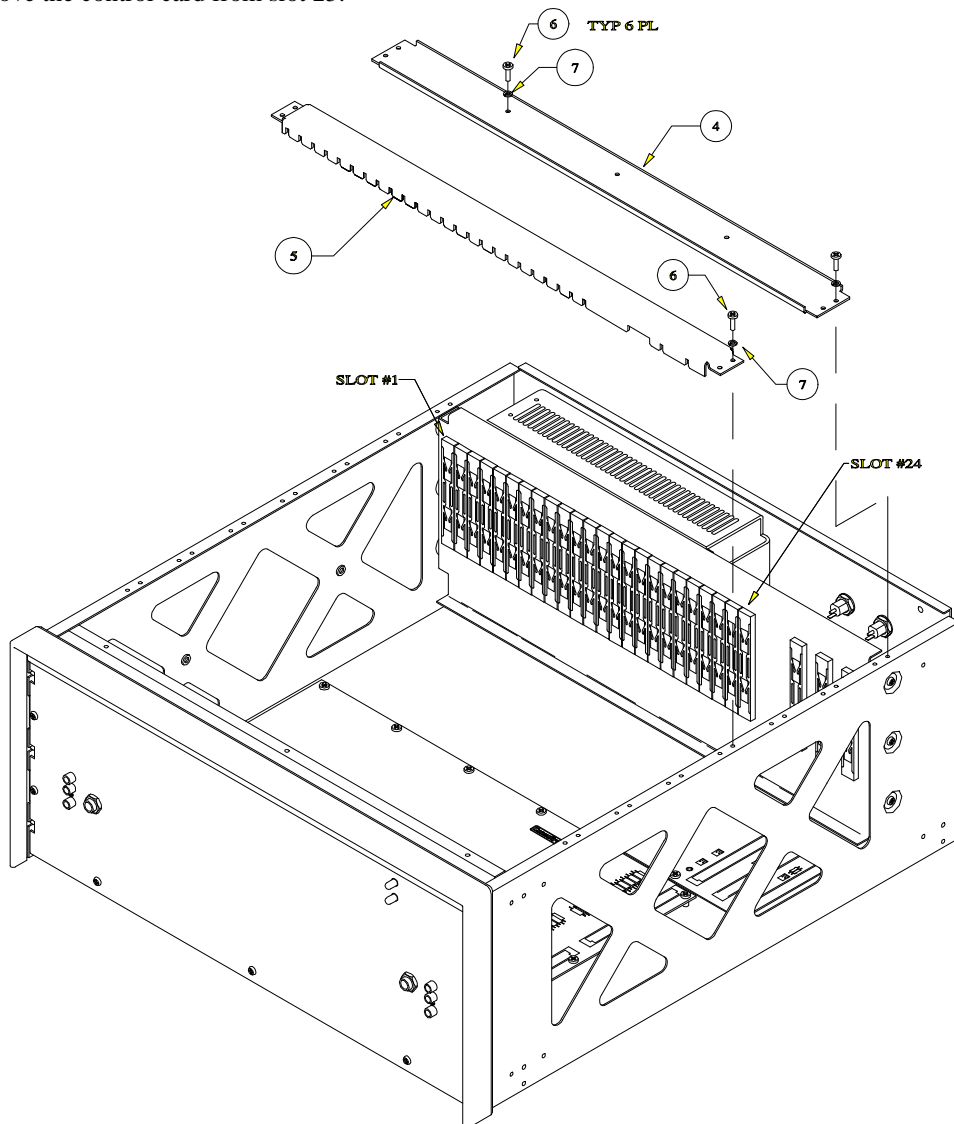

Figure 37 DLS 400E Chassis Assembly
- 3) Remove the card retainer (item 5) and the 5 card stabilizers (item 4) (see Figure 37).